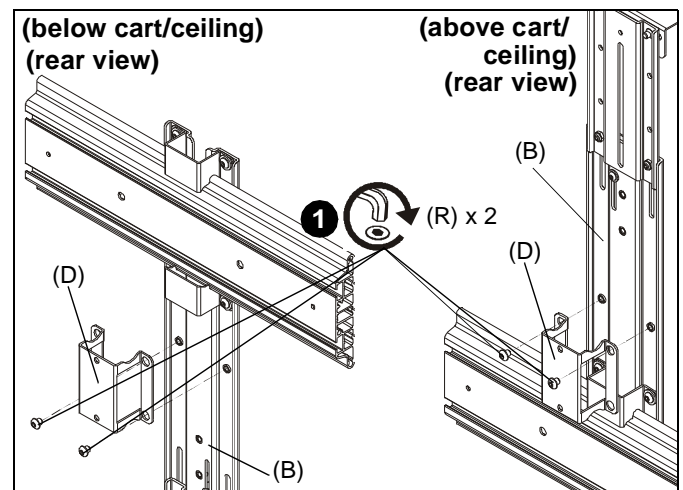

Figure 34
- To cart/ceiling below, below head assembly. (See Figure 34)
- To cart/ceiling above, above head assembly. (See Figure 34)